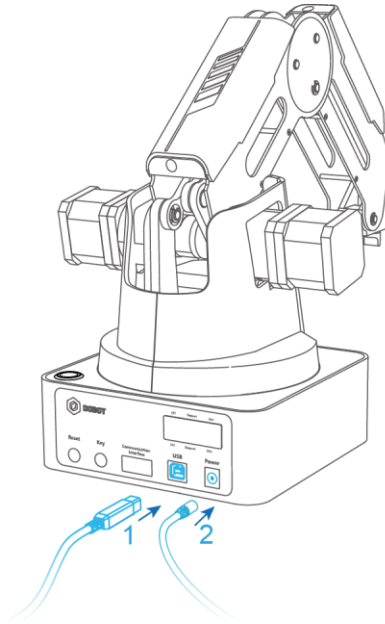

Figure 2.2 Connect the Dobot Magician to your computer
Step 1 Connect the Dobot Magician to your computer with the supplied USB cable, as shown in Figure 2.2.
Step 2 Connect the Dobot Magician to the electrical outlet with the supplied power adapter, as shown in Figure 2.2.